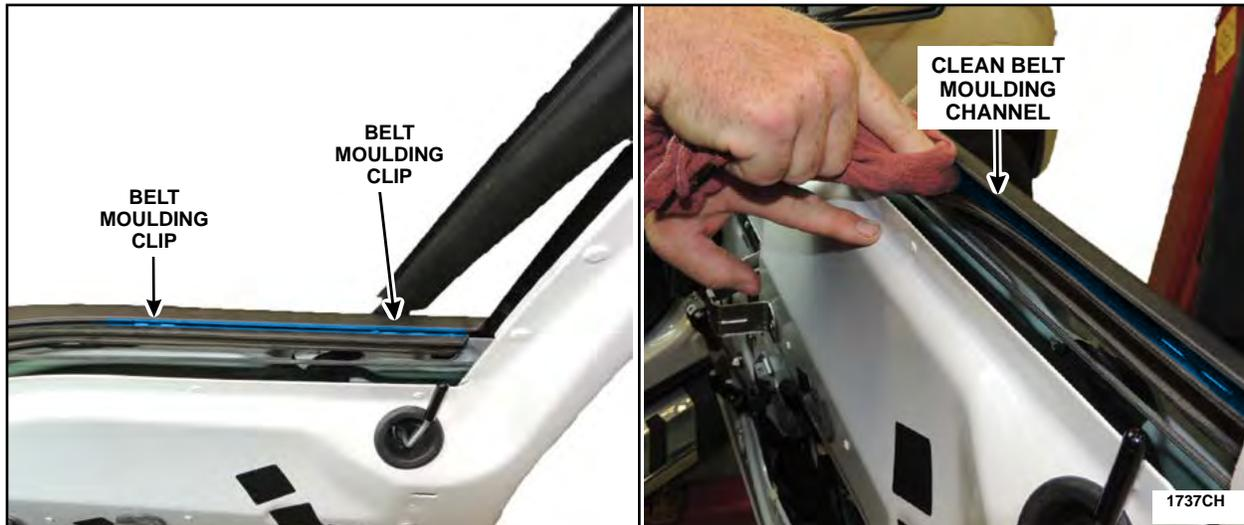
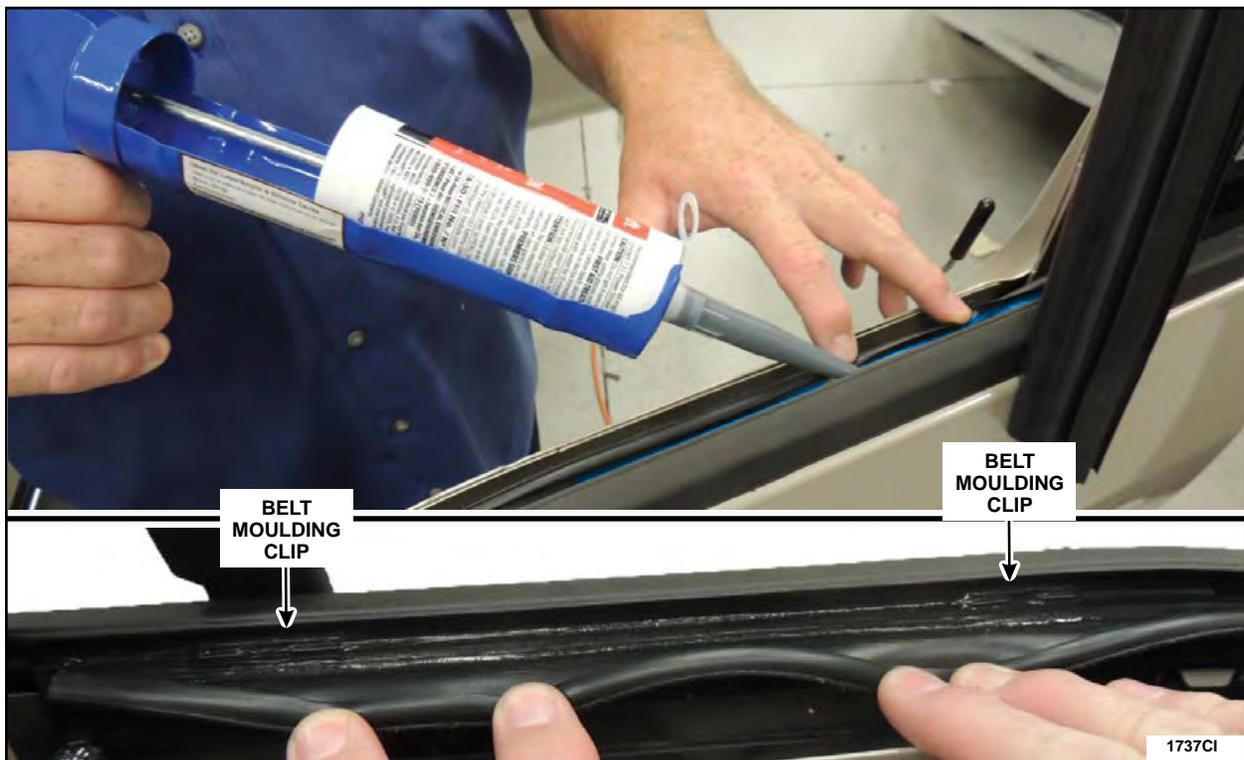

FIGURE 19
FIGURE 20
See Figure 19.
9. Apply a small bead of Motorcraft® TA-30 Silicone sealant onto the highlighted area of the outer belt moulding, ensuring the two belt moulding clips shown in Figures 19 and 20 are completely covered. Using your finger, smooth out the sealer to establish an even surface. See Figure 20.